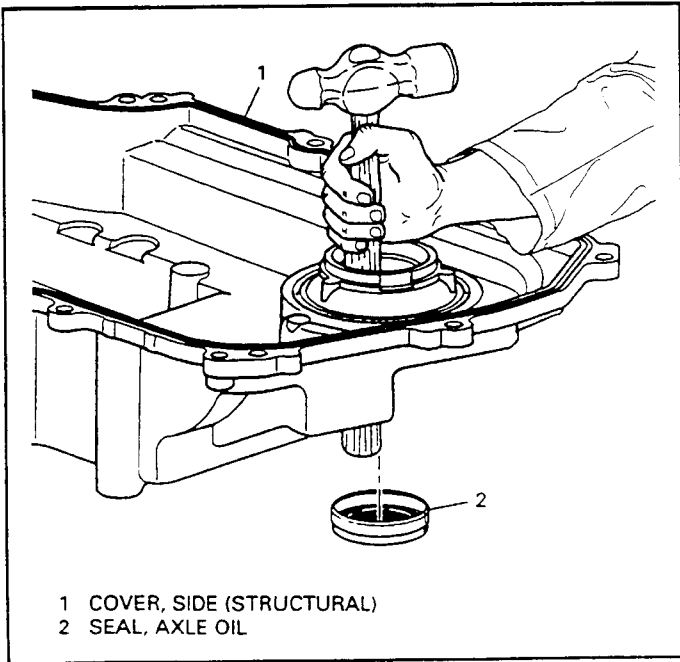

Figure 180
1. Remove the side cover axle seal using a press or a hammer handle as shown in Figure 180.